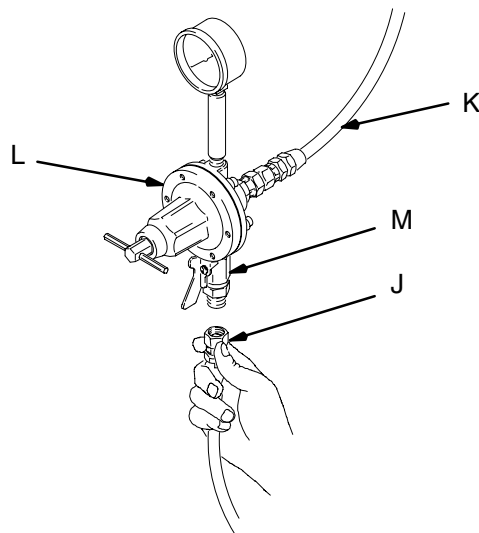

Fig. 5 _____ 7016A
- Install a fluid regulator (L) on the fluid line to control fluid pressure to the gun. See Fig. 5.
- Install a fluid shutoff valve (M) to shut off the fluid supply to the gun.